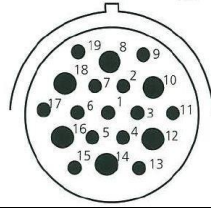

Figure 11. Deutsch HDP26-24-19SN
- Odyne provides an FSM connector (Figure 11) for interfacing with the Odyne system that is located inside the street side frame rail, back of cab. A list of signals and corresponding pin numbers can be found below (Table 3).